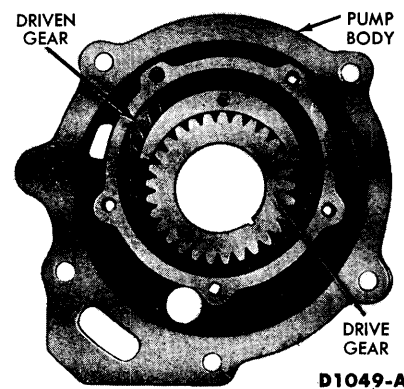

FIG. 41—Rear Pump
1. Remove the screws and lockwashers which secure the pump cover to the pump body, and remove the cover. Mark the top face of the pump drive and driven gear with Prussian blue to assure correct installation of gears at assembly (Fig. 41). **Do not scratch or punch marks on the pump gears.**